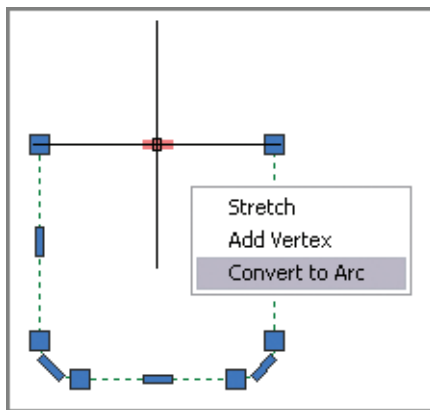

FIGURE 7.3 Converting a straight polyline segment into an arc
9. Select the polyline you joined in step 7. Hover the cursor over the top-middle grip, and select Convert To Arc from the multifunction grip menu that appears (see Figure 7.3).